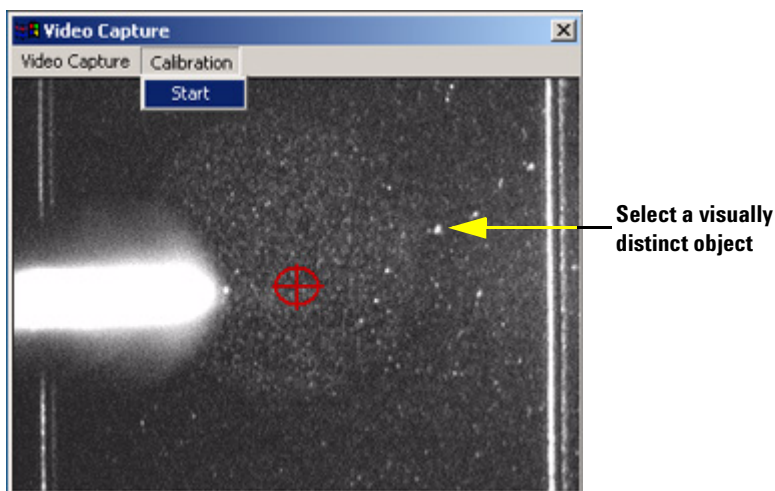

Figure 148 Start Video Capture sample-positioning Calibration Procedure by selecting visually distinct object
- 1 To calibrate the position of the spot using the “point-and-click” positioning system, go to **Calibration** on the Video Capture menu bar and choose **Start**. See Figure 148.
- 2 Ensure that there is a distinct visual object in the right-hand quadrant of the screen. See example in Figure 148.